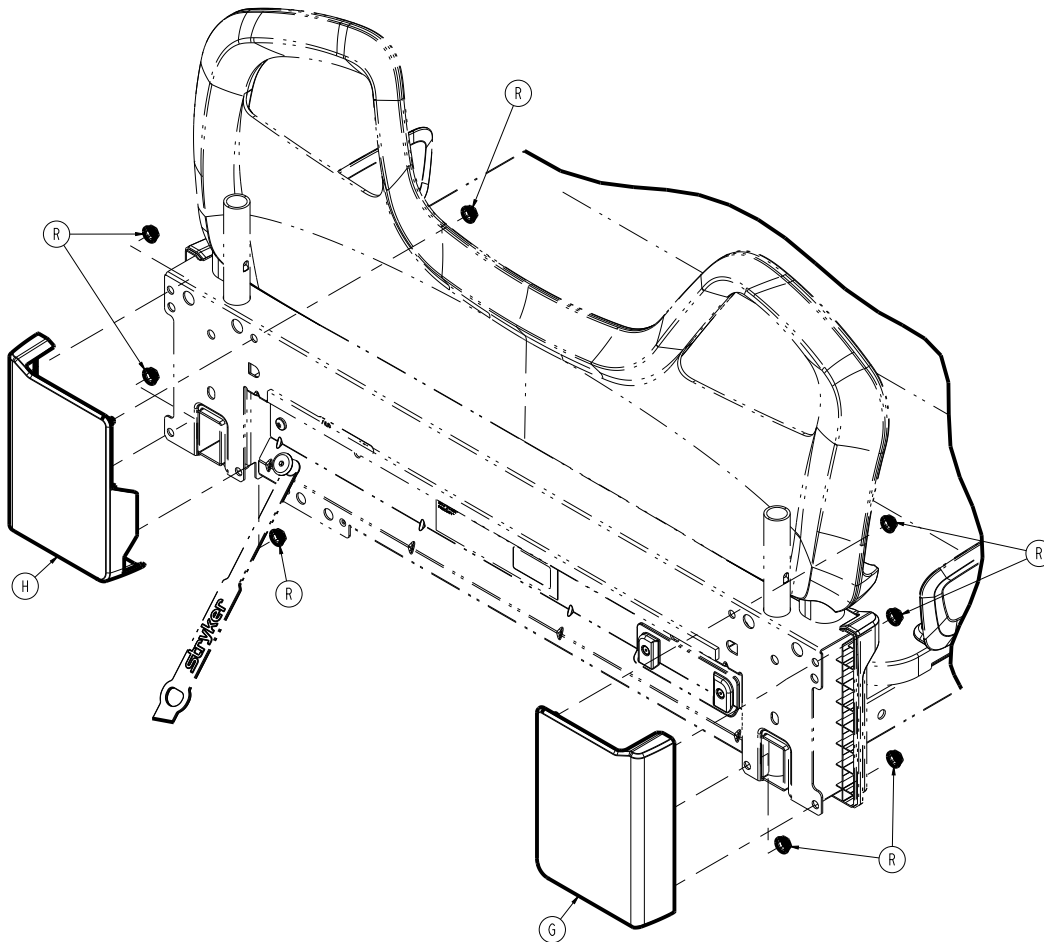

Figure 12 – Replacing the bumper
5. Using a 7/16" nut driver, remove the four nuts (R) that secure the rear head bumper (G, H) (Figure 12). Save the nuts. Remove and discard the bumper.